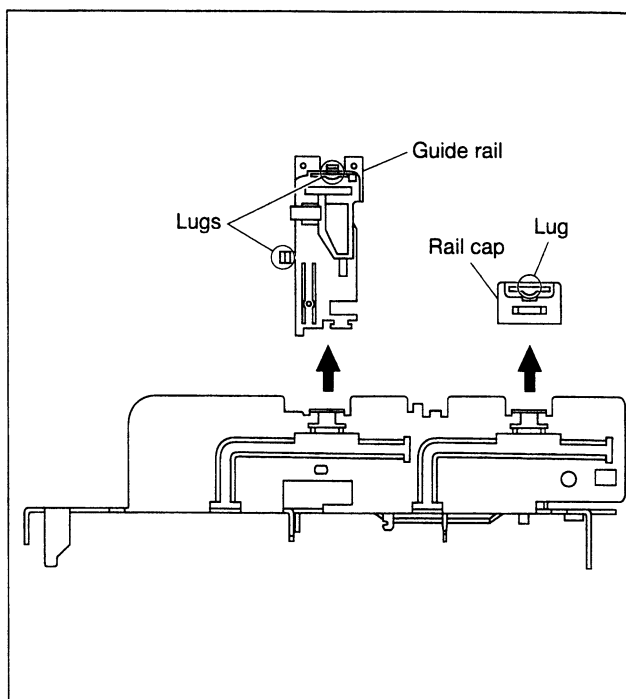

Fig. 2-2-2
(1) Remove the guide rail and rail cap. (See Fig.2-2-2).